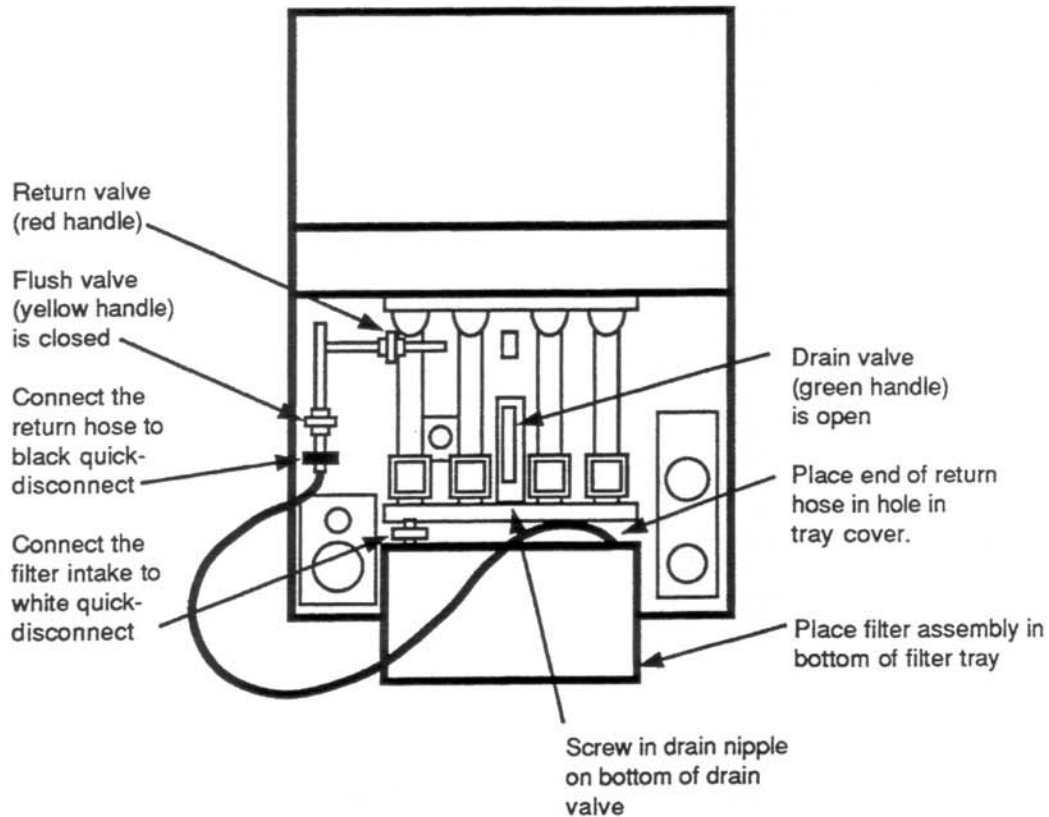

Fig. 18
2. Figure 18 shows how to set up the fryer. Set the Melt Cycle-Off-Cook switch to the Off position. Set the Pump On-Off switch to the Off position. Set the Heaters On-Off switch to the Off position.